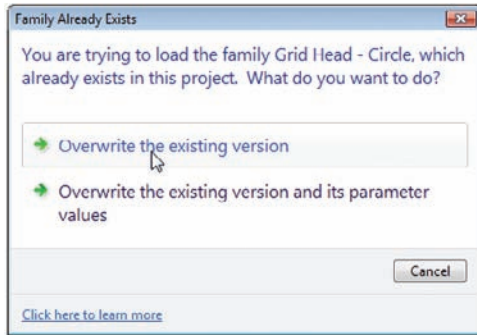

FIGURE 23.18 Overwriting the existing version
12. You will get a warning that this family already exists, as shown in Figure 23.18. Click Overwrite the existing version.